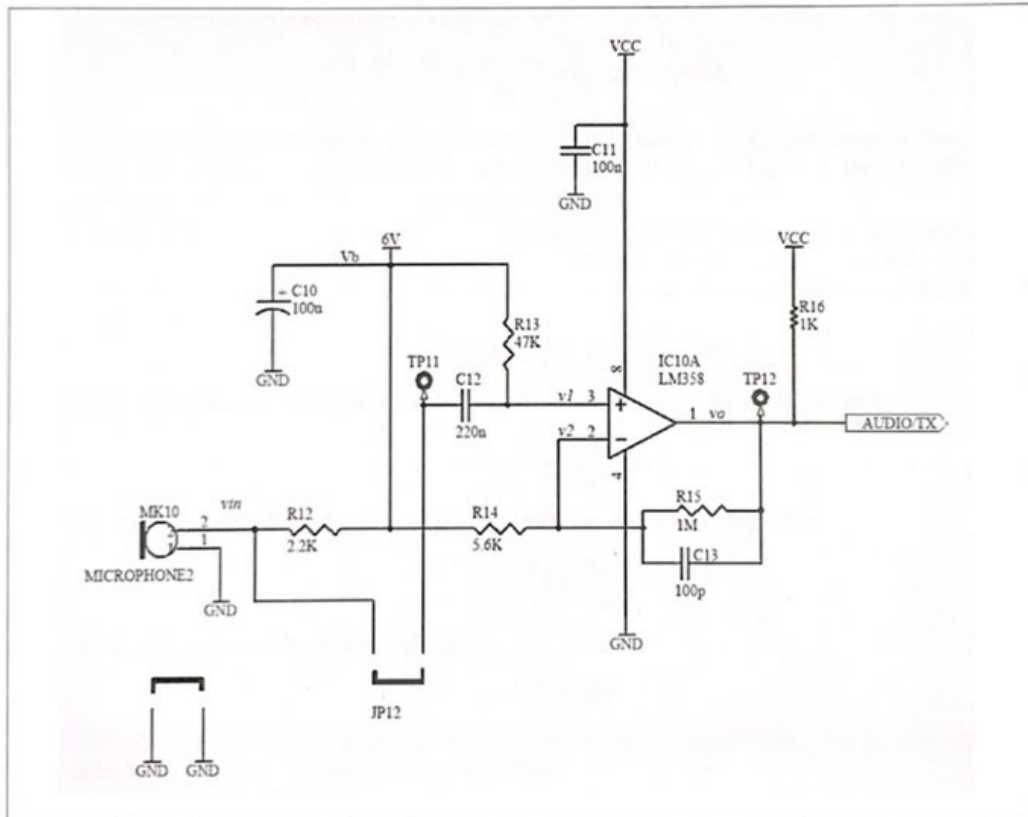

Figure 1: Schematic of microphone amplifier
- Consider the TRC-11 microphone amplifier circuit shown in Fig. 1, making use of one of the two OPAMPs in LM358 integrated circuit. Since the OPAMP operates with a single supply voltage, the input DC voltages of the OPAMP should be shifted to a voltage somewhere between V_{CC} and GND. For this purpose, we use the regulated voltage, +6V.